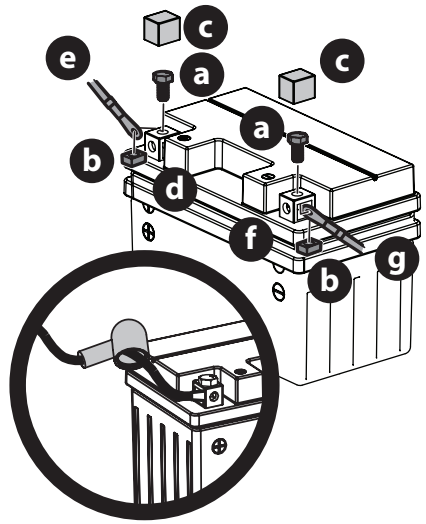

Fig. 13
1. Remove the hex screws (a) and square nuts (b) located either on the end of the wiring harness or in the bag with this manual. Retain the hardware for later instructions (Fig. 13).
2. Remove the plastic cover (c), if present, from the positive battery terminal (d) and attach the red cable (e) to the positive battery terminal (d) with one of the hex screws (a) and square nuts (b), from Step 1. Use a Philips screw driver (Fig. 13).
3. Position the red rubber boot over the positive battery terminal to help protect it from corrosion (Fig. 13, inset).
4. Remove the plastic cover (c), if present, from the negative battery terminal (f) and attach the black cable (g) to the negative battery terminal (f) with the remaining hex screw (a) and square nut (b) (Fig. 13).